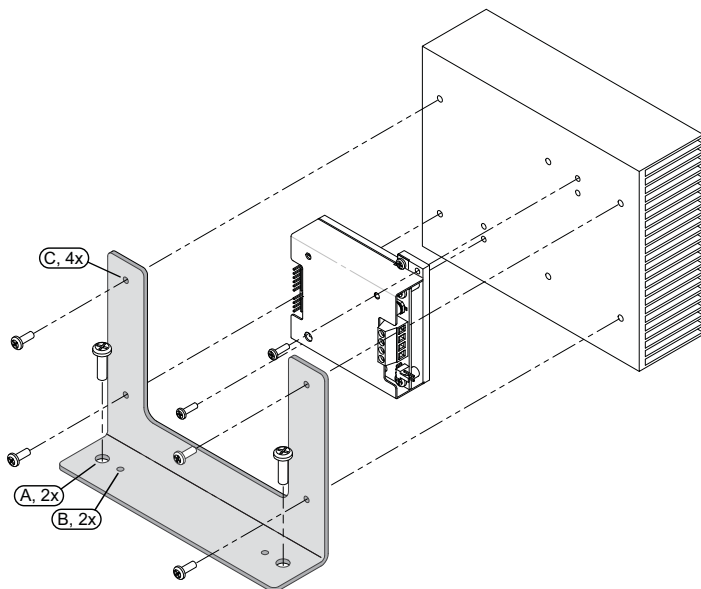

Figure 1. Mounting Option One
The heatsink can be mounted to the bracket in two different ways, illustrated in the exploded views of **Figure 1** and **Figure 2**.
- If the heatsink is mounted on the side opposite the bracket foot, per **Figure 1**, the heatsink can be attached to the bracket before the bracket is mounted to the bench.